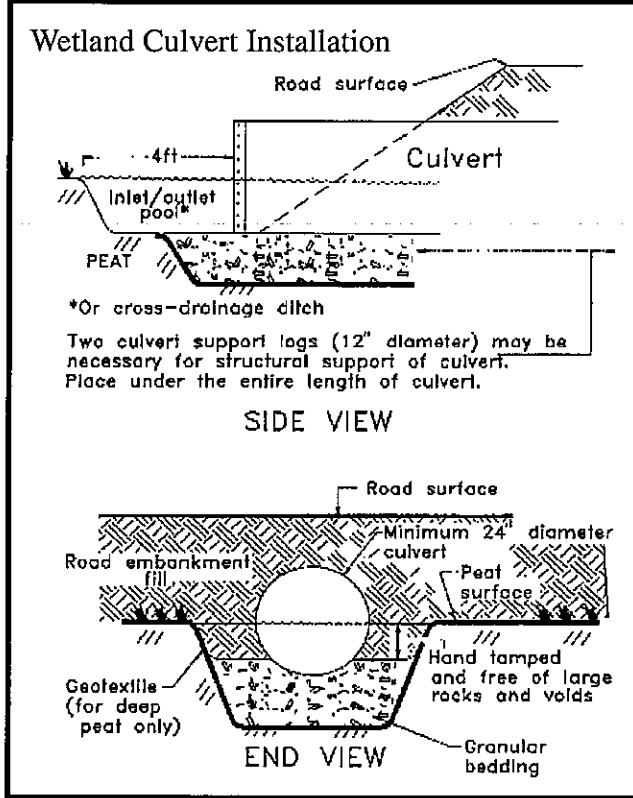

Figure ROAD-16
✓ **Install culverts that are a minimum of 24 inches in diameter** buried halfway below the soil surface. The upper half will handle surface storm flows and the lower half will handle normal subsurface flows. Failure to bury the lower half of the culvert will cause subsurface water to pond on the upstream side of the road and kill trees. See Figure ROAD-16.
- ✓ **Install culverts that are a minimum of 24 inches in diameter** buried halfway below the soil surface. The upper half will handle surface storm flows, and the lower half will handle everyday subsurface flows. Failure to bury the lower half of the culvert will cause subsurface water to pond on the upstream side of the road and kill trees. See Figure ROAD-16, page 39.